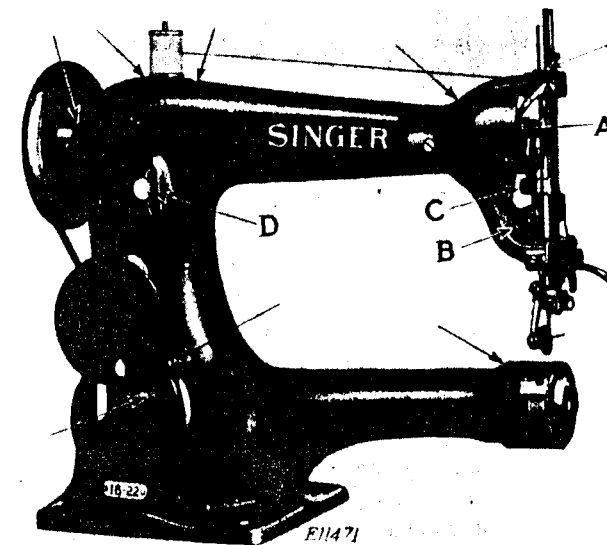

FIG. 2. OILING POINTS AT THE FRONT OF THE MACHINE
Oil should be applied to all oil holes marked "Oil" and to all oiling places indicated by arrows in Fig. 2. Arrow (A, Fig. 2) points to the take-up lever hinge screw which is concealed in Fig. 2 by the arm side cover at the front end of the machine. This oiling point is reached through the open end of the arm side cover as indicated by arrow (A).
The length of stitch is regulated by the thumb screw (D, Fig. 2) in the slot in the front of the arm at the left. To lengthen the stitch, loosen the thumb screw (D) and move it upward. To shorten the stitch, loosen the thumb screw and move it downward. When the desired length of stitch is obtained, tighten the thumb screw (D).
Turn the balance wheel over until the needle has reached its lowest point and has risen until the point of the shuttle is at the centre of the needle. The eye of the needle should then be about  $\frac{1}{8}$  inch below the point of the shuttle. If the needle bar is not set at the correct height, insert a screwdriver in the hole (B, Fig. 2) and loosen the screw (C, Fig. 2) in the needle bar clamp, then move the needle bar upward or downward as required. After the needle bar is set at the correct height, securely tighten the clamp screw (C).